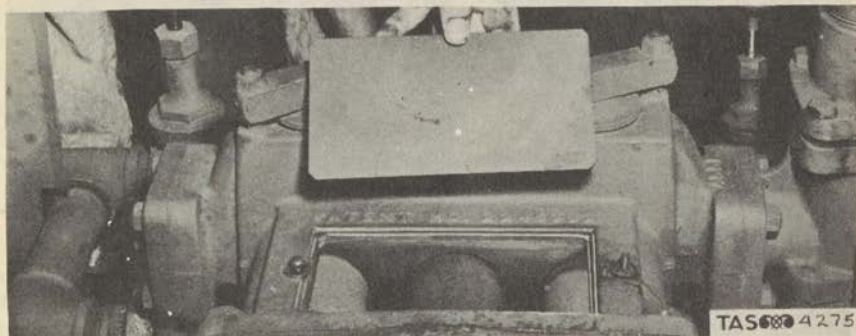

Figure 264. Removal of Inspection Plate.
(1) First remove the side cylinder heads, intake valve balls, and piston rod nuts.
(2) Remove the inspection plate on the top of the pump. (Fig. 264)